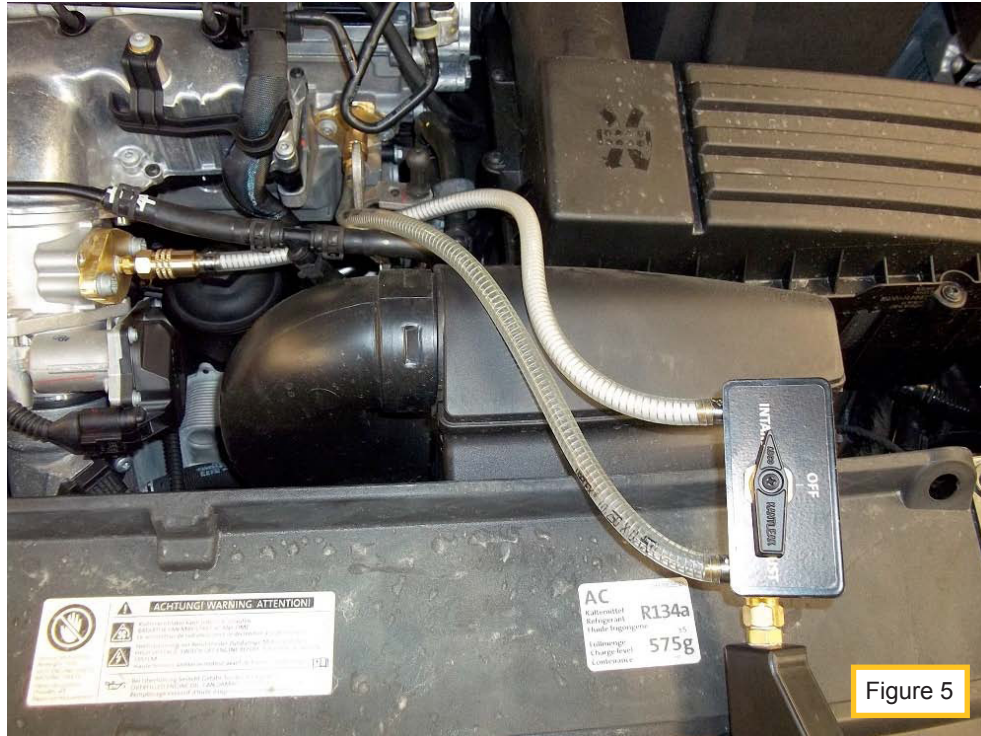

Figure 5
12. Raise engine rpm to 1200 as this will open the EGR valve, turn adapter valve to intake (see figure 5), open fluid valve and continue service until another 1/4 of the fluid is consumed.
15. Raise engine rpm to 1200 as this will open the EGR valve, turn adapter valve to intake (see figure 5), open fluid valve and continue service until EGR tool is empty.